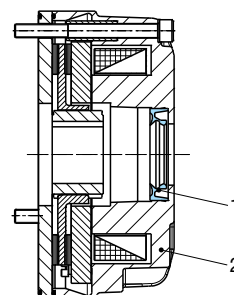

Fig. 4
- IP65 design for continuous shafts, Fig. 4